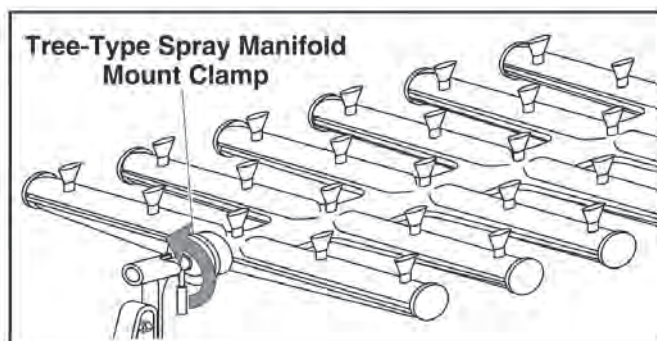

Figure 13
- a. Rotate the Mounting Clamp handle counterclockwise to release the Spray Manifold (Figure 13).